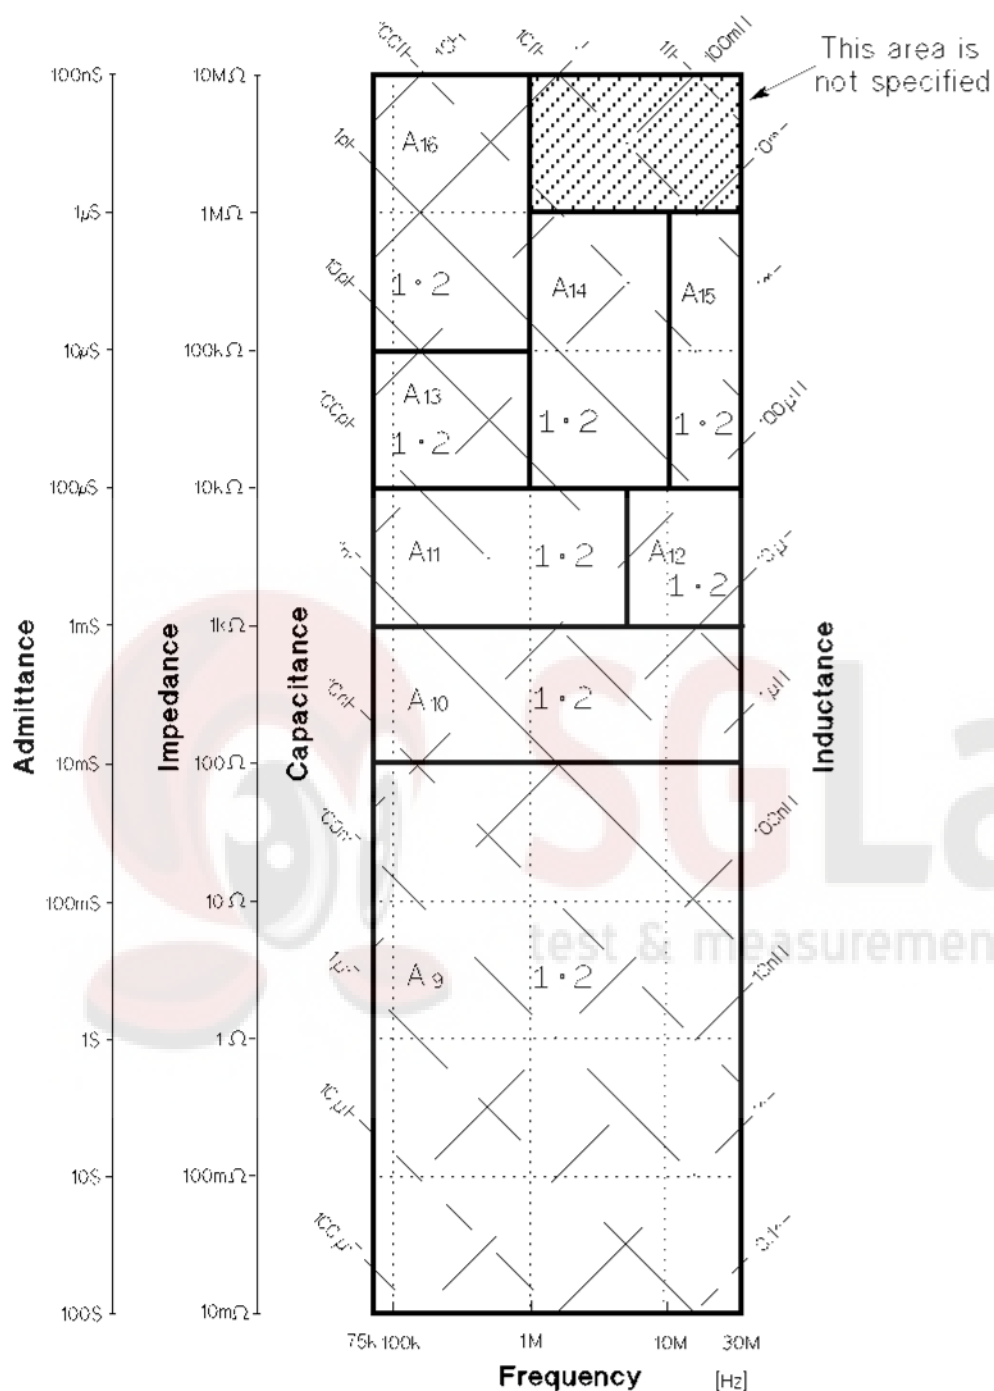

Figure 1-4. Accuracy equations and Kf factor (test signal level > 1 Vrms)
$A_n$  = Basic accuracy equation given from the  $A_1$  to  $A_{16}$  shown in Table 1-1. The applicable frequency range and impedance range of equations  $A_1$  to  $A_{16}$  are shown in Figure 1-3 and Figure 1-4. (Refer to *Basic Accuracy Equations* on page 7.)
1. Determine  $A_n$  equation from Figure 1-3 or Figure 1-4. In both charts, boundary line belongs to the better accuracy area.
When the oscillator level is  $> 1 V_{rms}$ , determine  $A_n$  to be applied and value of  $K_i$  from the Figure 1-4.
3. Choose an accuracy chart from Figure 1-3 and Figure 1-4. The oscillator level is 1 Vrms, then Figure 1-3 is chosen for this measurement.